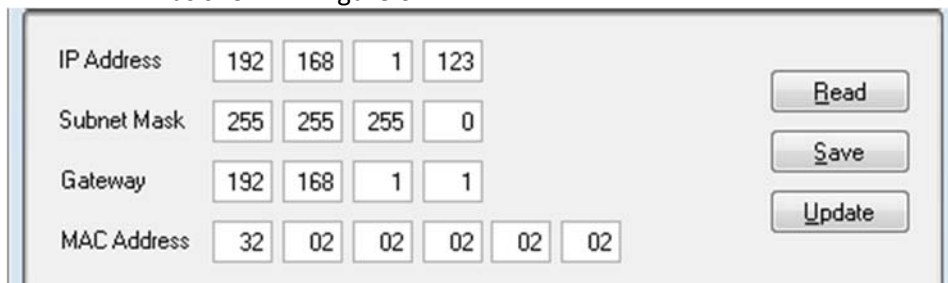

Figure 6 - Default Ethernet settings expected from a freshly programmed SSP
- ___ DONE ___ c. In the *Ethernet Address Area* of the Flash Programming window, hit the **Read** button. The IP Address, Subnet mask, Gateway and MAC Address fields should update with the default values expected for a freshly programmed SSP, as shown in Figure 6.
- ___ PASS ___ FAIL 7. Verify that all settings read from the module are as shown in Figure 6.